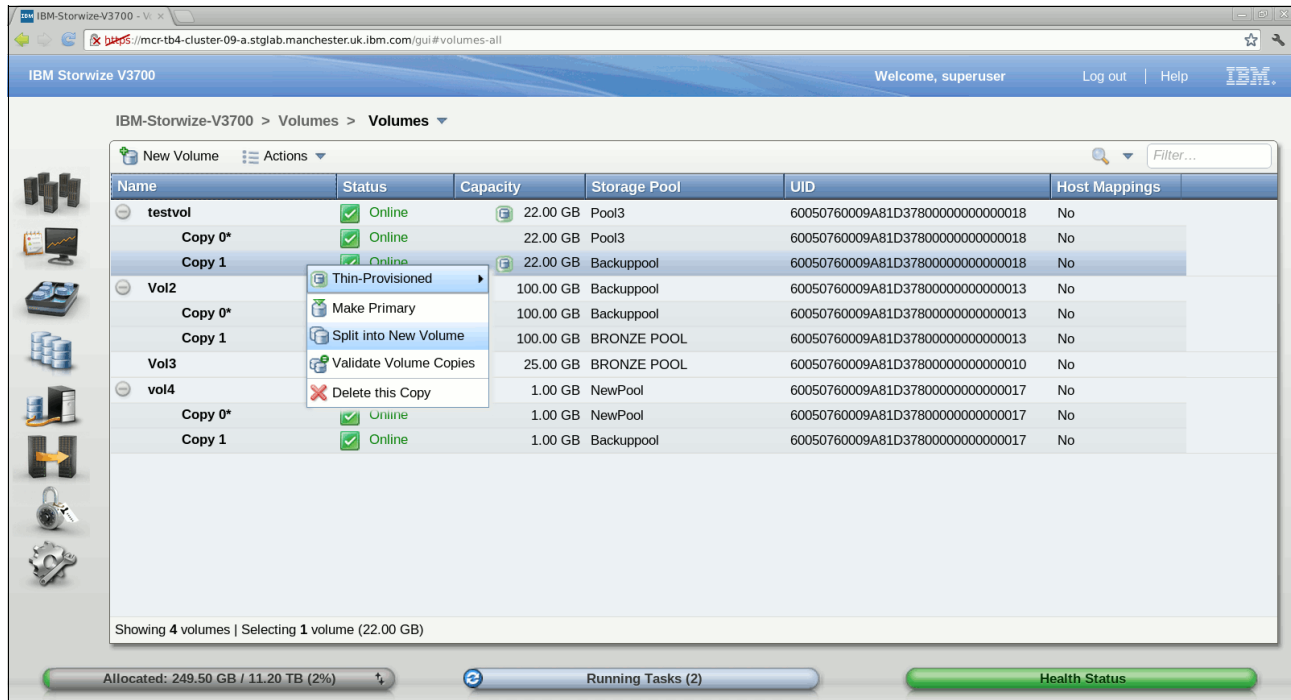
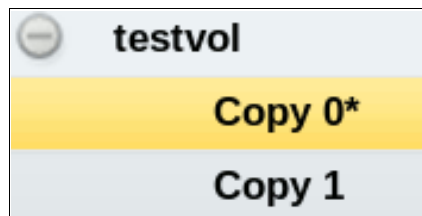
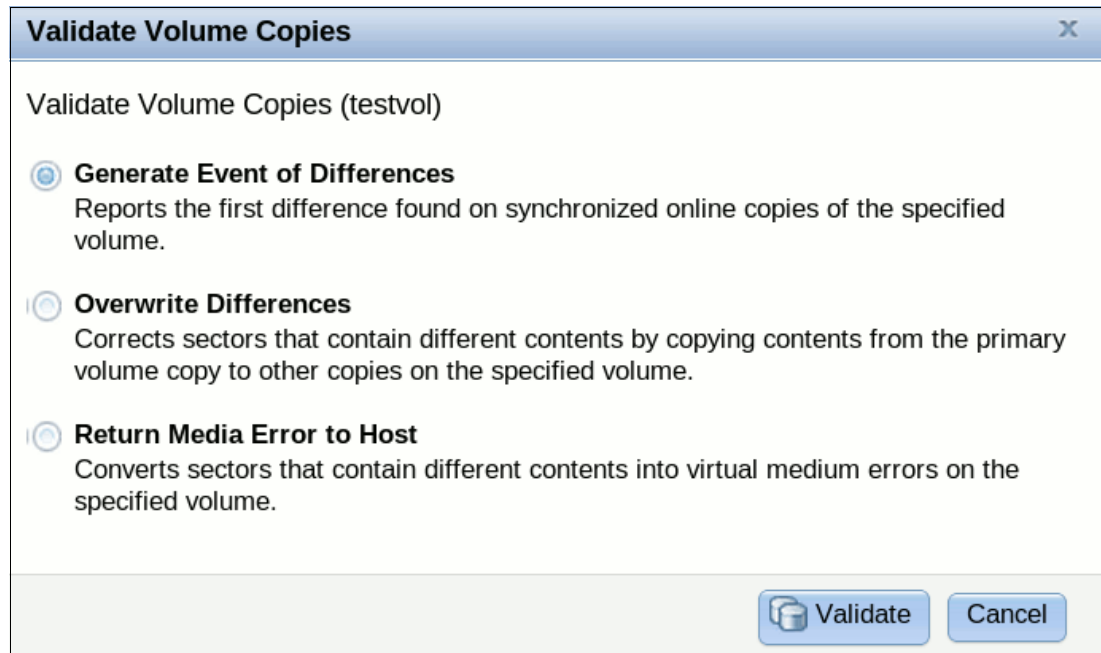
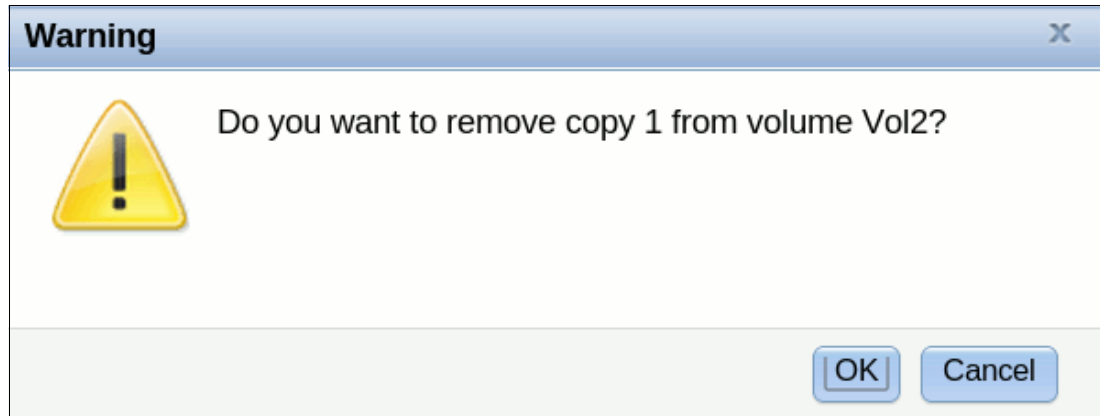

Figure 8-100 Volume copy actions
Figure 8-101 Volume copy names
Figure 8-107 Validate Volume Copies
Figure 8-110 Delete a copy
In 8.4.1, “Advanced volume functions” on page 351, we described all the available actions at a volume level and how to create a second volume copy. In this section, we focus on volumes that consist of two volume copies. If you expand the volume and highlight a copy, the following volume copy actions become available, as shown in Figure 8-100:
If you review the volume copies that are shown in Figure 8-100, you notice that one of the copies has a star displayed next to its name, as shown in Figure 8-101.
To split a copy, click **Split into New Volume** (see Figure 8-100 on page 380). If you perform this action on the primary copy, the remaining secondary copy automatically becomes the primary for the source volume. Enter a name for the new volume and click **Split Volume Copy**, as shown in Figure 8-105.
1. Select Validate Volume Copies (see Figure 8-100 on page 380). The Validate Volume Copies window opens, as shown in Figure 8-107.
Select **Delete** (see Figure 8-100 on page 380) to delete a volume copy. The copy is deleted, but the volume remains online by using the remaining copy. Confirm the deletion process by clicking **OK**, as shown in Figure 8-110.